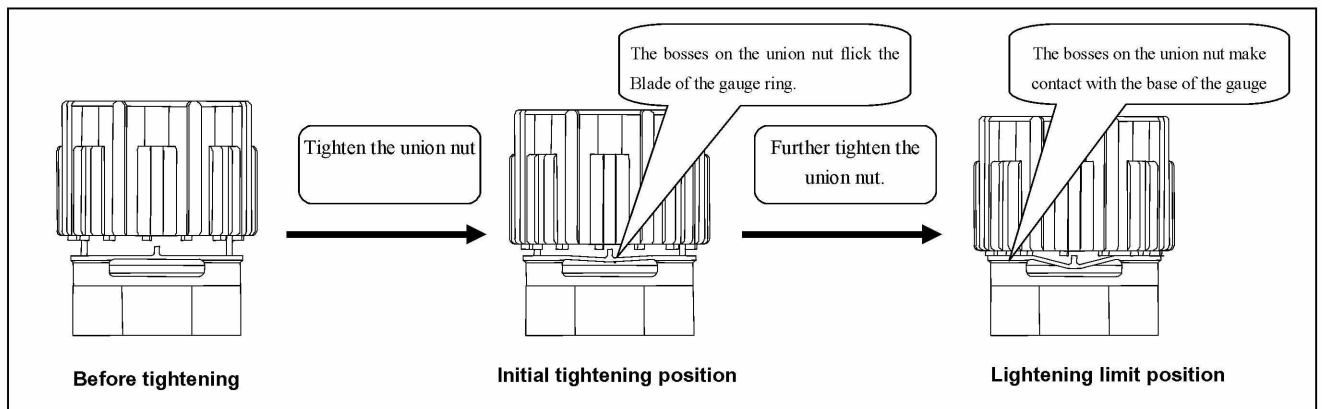

Fig. 7 - Initial tightening
- Insert the tube into which the sleeve has been inserted, into the main unit and then tighten it until the boss on the union nut makes contact with the gauge ring and pulls the blade. Crunching sound should be heard (see Fig. 7).